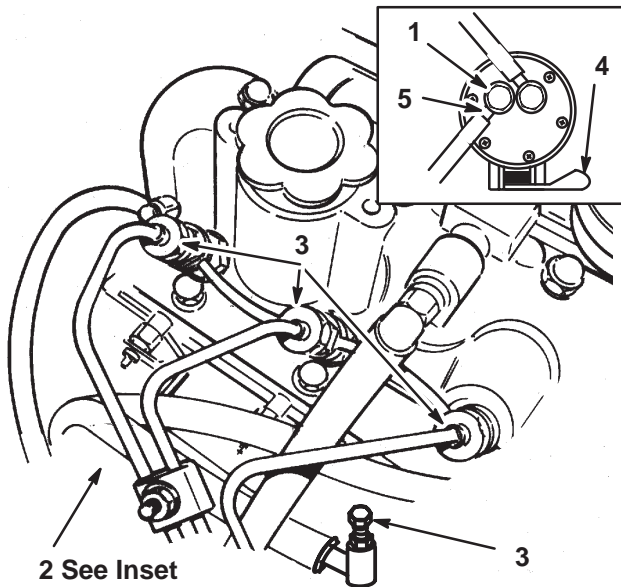

Figure 36
2. Bleed screws (2)
6. When a steady stream of fuel flows out of the transfer pump screw, tighten the screw, retaining the angle of the fitting before loosening (Fig. 36).
7. Loosen the injection pump inlet screw on the front of the engine (Fig. 36).
8. Pump the priming lever (Fig. 36) until a steady stream of fuel flows out of the injection pump inlet screw, then tighten the screw. Do not over-tighten the screw as damage may occur.